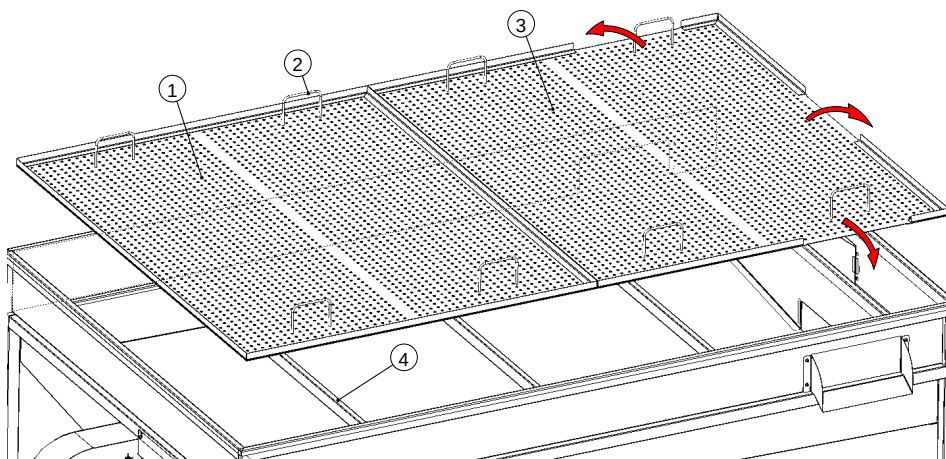

Figure 3: Perforated trays
7. Put perforated trays (1) and (3) on the supports (4), using handles (2), see Fig.3. Note three cutouts (shown by arrows) on one tray that must match popcorn chutes.